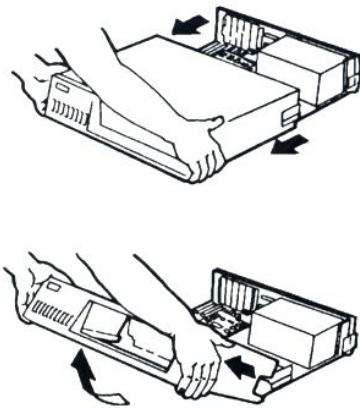

Figure 2
- Slide the cover towards you until it can go no further then tilt the cover upward and away from the frame. See Figure 2.